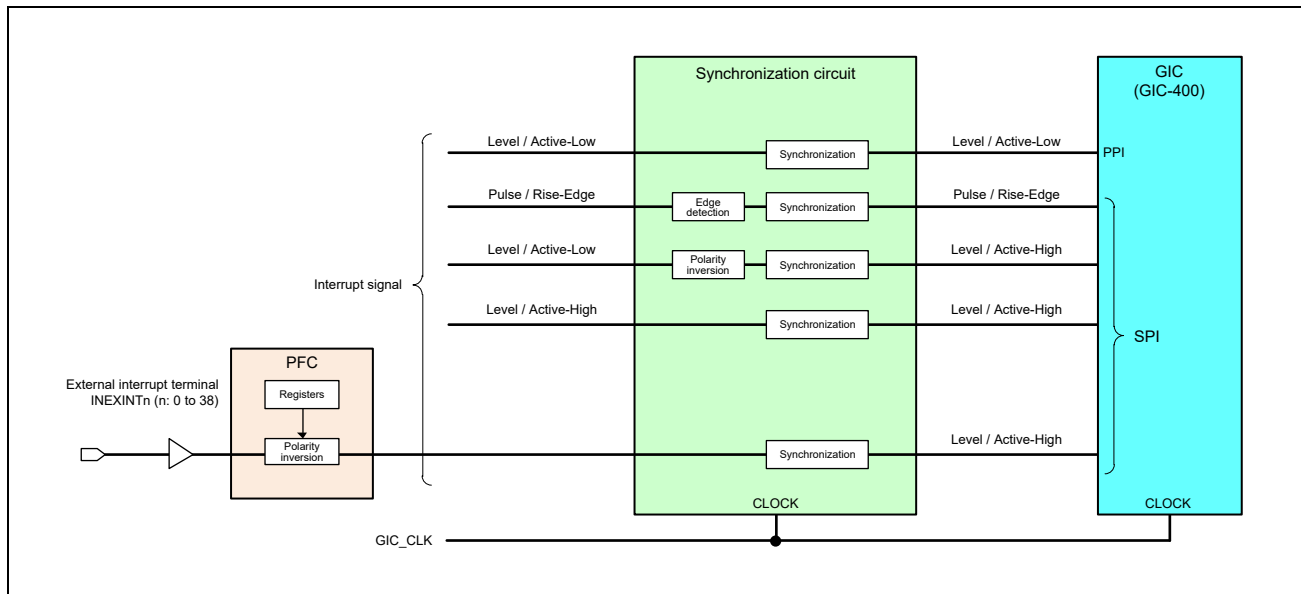

Figure 5.2-1 Functional Overview of the Synchronization Circuit
**Figure 5.2-1** shows a functional overview of the synchronization circuit.